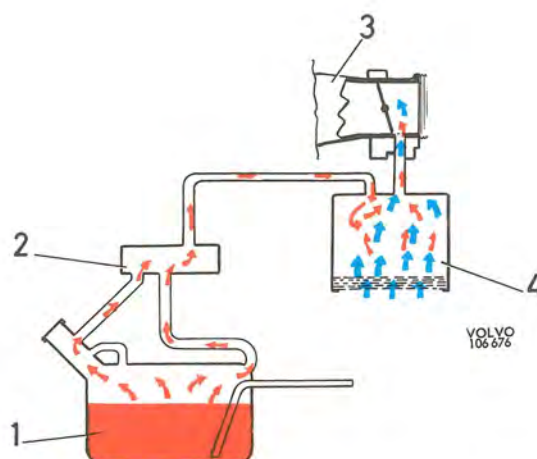

Fig. 2-129. Gas evaporative control system, principle
Gas fumes forming in the hermetically sealed container, particularly during warm weather, are conveyed to the expansion container (2, Fig. 2-129) and from there to the venting filter (4) where they are mixed with the active carbon.